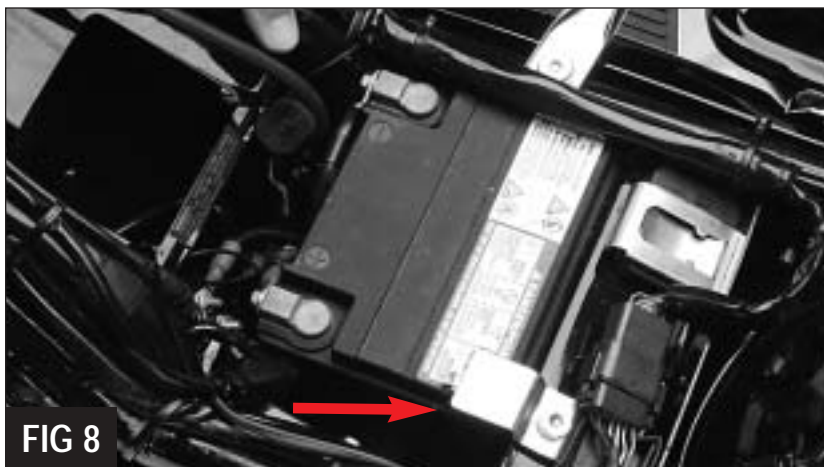

FIG 8
13. Now run the black lead over to your battery and install it onto the negative terminal under the main ground lead. Working with the negative terminal is easier if you loosen the battery hold-down first (see arrow, Figure 8). Once the black lead and battery positive are reconnected, tighten the hold-down.